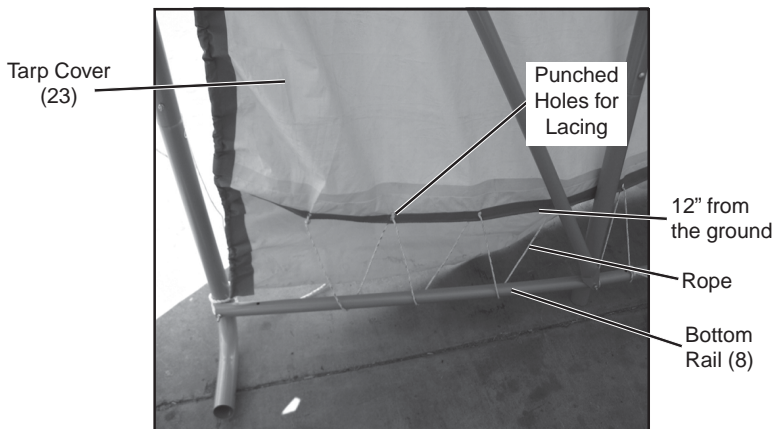

Figure 12
5. The area where the rope comes out of the Tarp Cover (23) should be about 12" from the ground. **See Figure 12.**
7. When the Tarp Cover (23) is aligned, fasten the Tarp Cover to the frame using the Rope (19). Start by lacing the end of the Rope through the first punched hole in the Tarp Cover. Pass the Rope under the Bottom Rails (8), Continue down the Shelter, creating a laced effect. When laced to the end, that will be End Bottom Rail (9). Tie off at the end. Work your way back tightening the lacing by pulling the Rope down, creating a snug fit. When you get to the other end, tie off and trim off any extra Rope. **See Figure 12, previous page.**